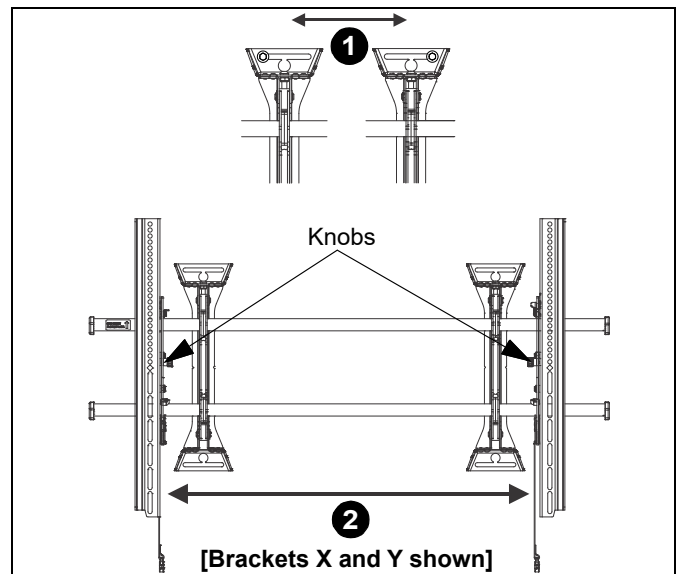

Figure 12
1. The wall brackets may be adjusted side to side at the point of attachment. (See Figure 12)
2. The location of the left and right interface brackets (V and W or X and Y) may be switched, with the knobs on the XTM1U interface brackets (X and Y) facing the inside of the mount. (See Figure 12)